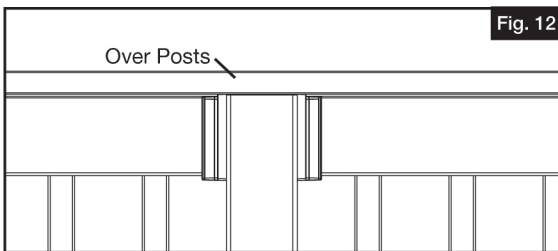

Fig. 12
- If installing railing OVER the post (Fig. 12):